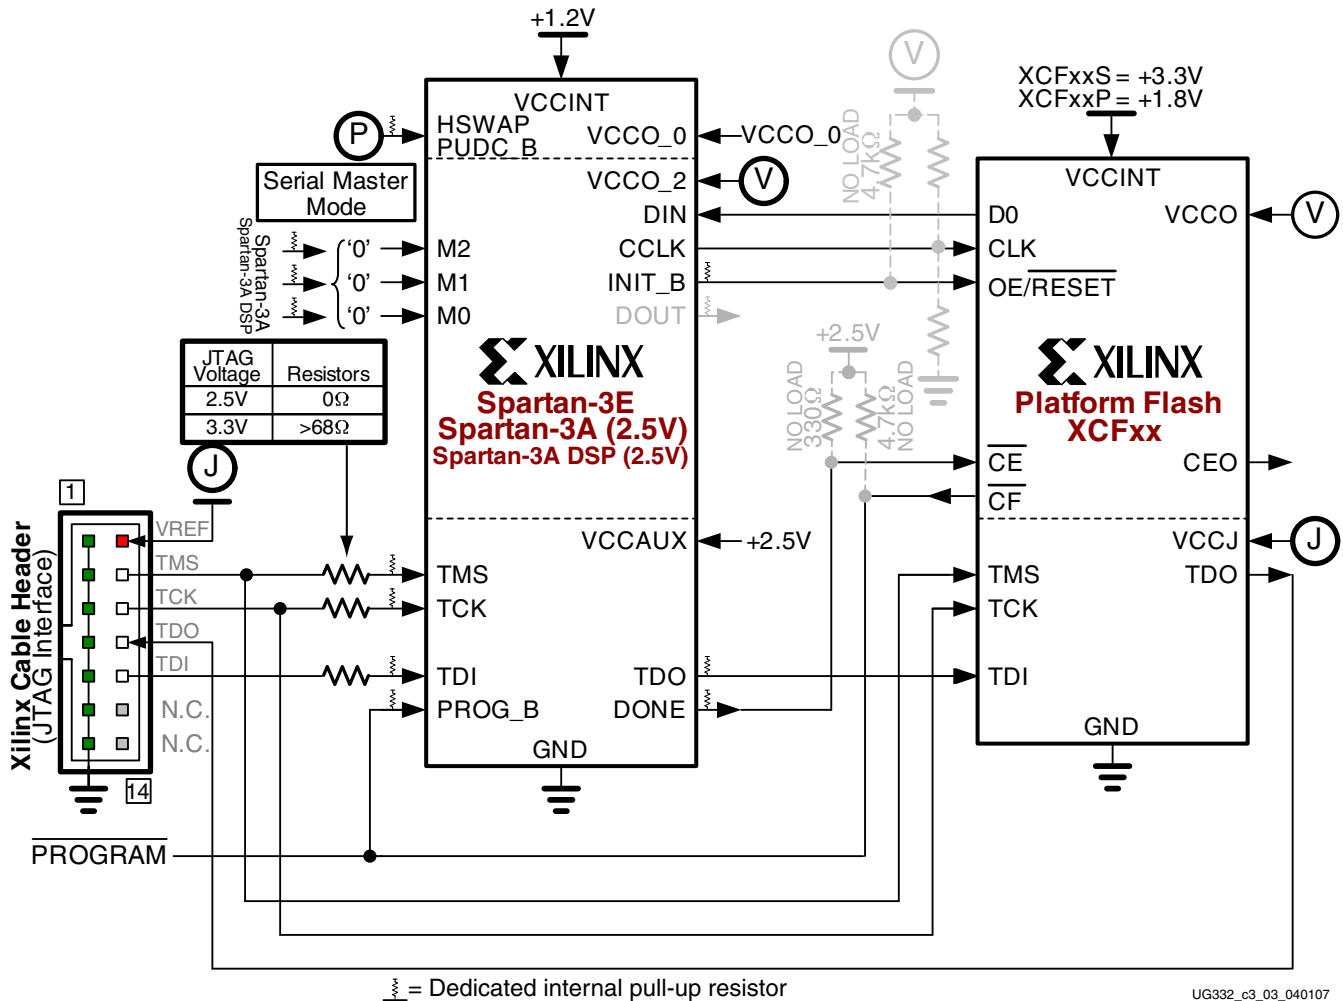
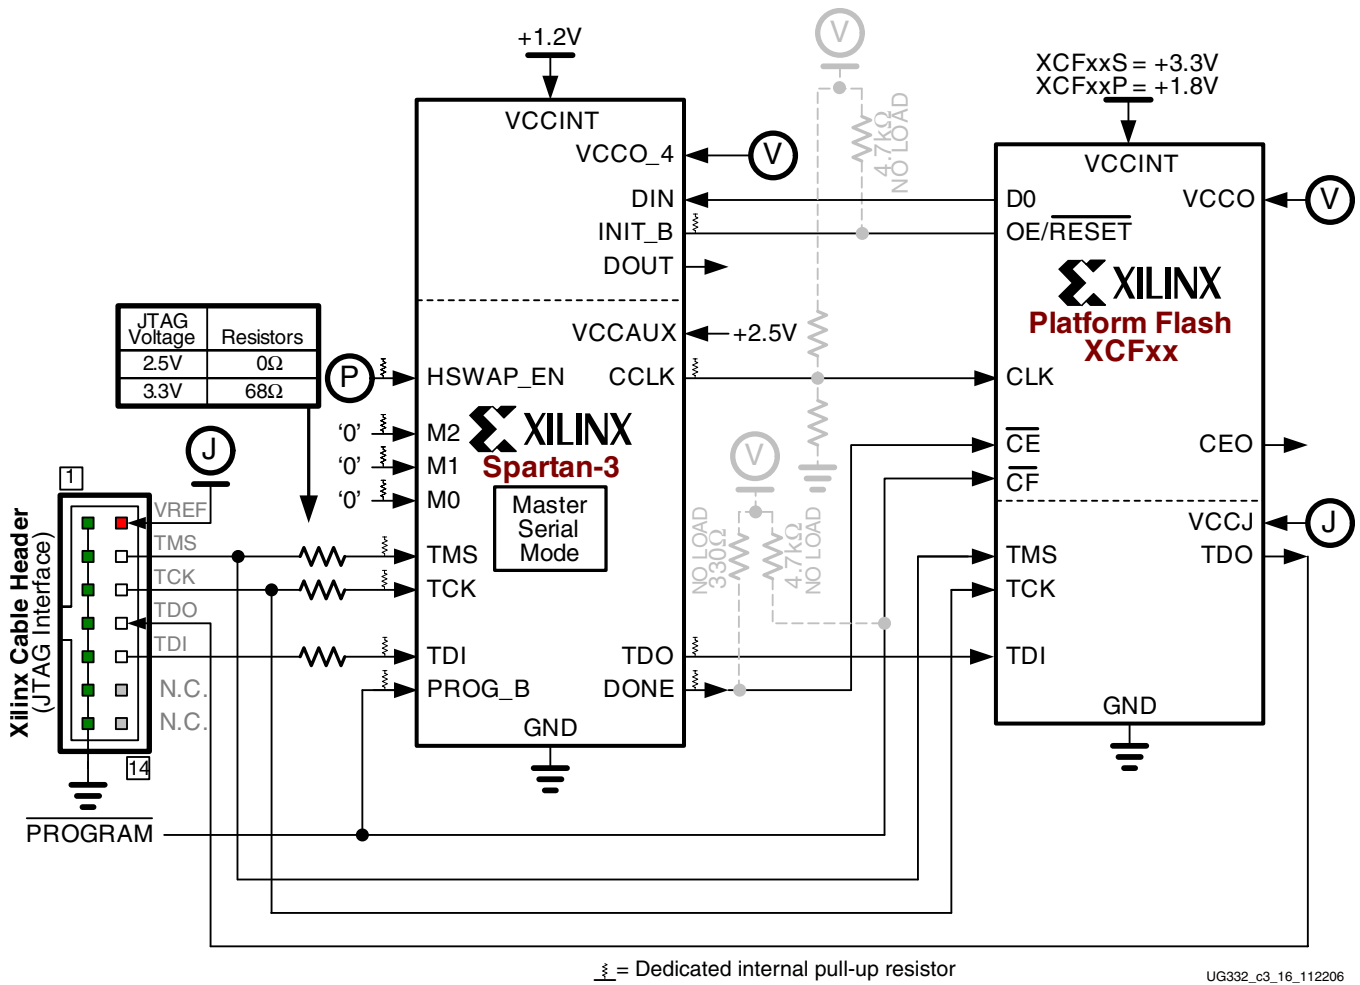

Figure 3-1: Master Serial Mode Using Platform Flash PROM (Spartan-3E or Spartan-3A/3A DSP FPGA, VCCAUX = 2.5V)
Figure 3-3: Master Serial Mode Using Platform Flash PROM (Spartan-3 FPGA)
In Master Serial mode ( $M[2:0] = <0:0:0>$ ), the Spartan-3 Generation FPGA configures itself from an attached Xilinx Platform Flash PROM, as illustrated in Figure 3-1, Figure 3-2, and Figure 3-3. The figures show optional components in gray and designated “NO LOAD”. The FPGA supplies the **CCLK** output clock from its internal oscillator to the attached Platform Flash PROM. In response, the Platform Flash PROM supplies bit-serial data to the FPGA’s **DIN** input, and the FPGA accepts this data on each rising **CCLK** edge.
- Figure 3-1, page 66 illustrates the Master Serial configuration interface for Spartan-3E and Spartan-3A/3A DSP FPGAs when the FPGA’s  $V_{CCAUX}$  supply is at 2.5V. Spartan-3E FPGAs always have  $V_{CCAUX} = 2.5V$ . Spartan-3A and Spartan-3A DSP FPGAs support both  $V_{CCAUX} = 2.5V$  or 3.3V. Table 3-1, page 66 lists the FPGA/PROM connections.
- Figure 3-3, page 68 illustrates the Master Serial configuration interface for Spartan-3 FPGAs.